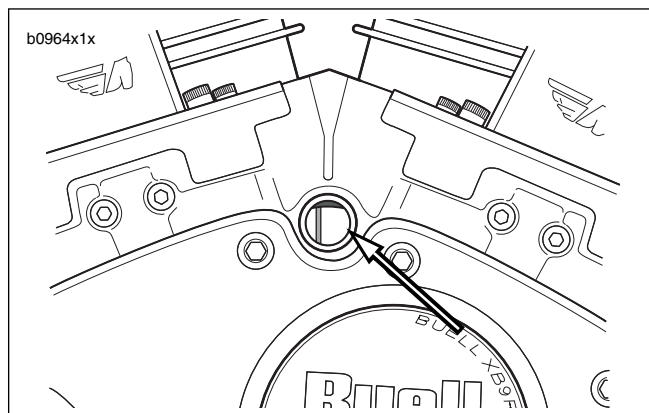

Figure 1-50. Advanced Timing
2. See Figure 1-50. If timing is advanced (mark appears on left side of window) rotate timing plate counterclockwise.